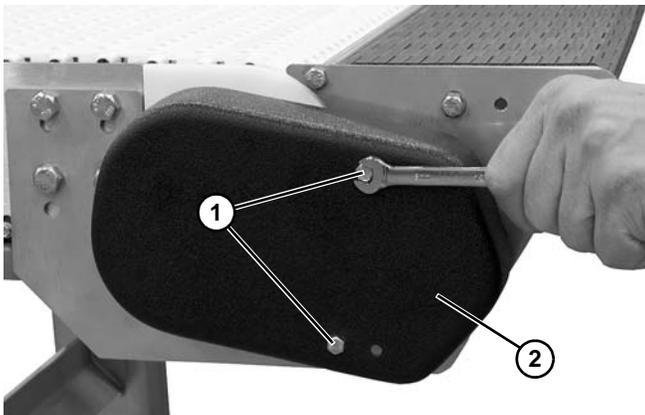

Figure 54
1. Remove two hex head screws (Figure 54, item 1) and cover (Figure 54, item 2).